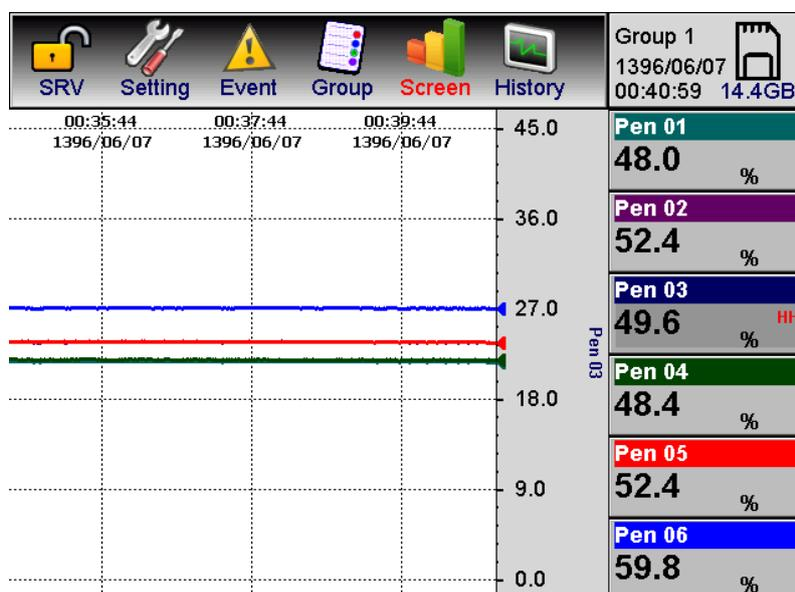

Figure A-3: Displaying alarms in Horizontal trend
- In Horizontal trend submenu, if there are alarms on any of the pens (as shown in Figure A-3), the alarms are shown yellow in Hi and L modes, and red in HH and LL modes in the numeric part of the pens containing alarms.